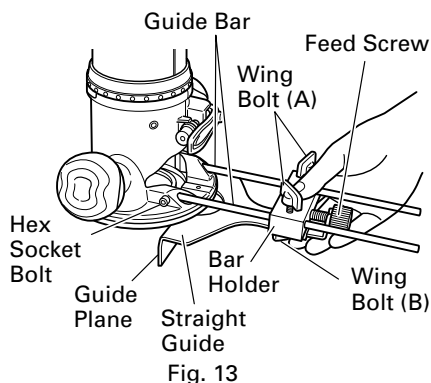

Fig. 13
- ① Insert the guide bar into the hole in the bar holder, then lightly tighten the 2 wing bolts (A) on top of the bar holder.
- ② Insert the guide bar into the hole in the base, then firmly tighten the 2 hex socket bolts (standard accessories).
- ③ Make minute adjustments of the dimensions between the bit and the guide surface with the feed screw, then firmly tighten the 2 wing bolts (A) on top of the bar holder and the wing bolt (B) that secures the straight guide. (Fig.13)